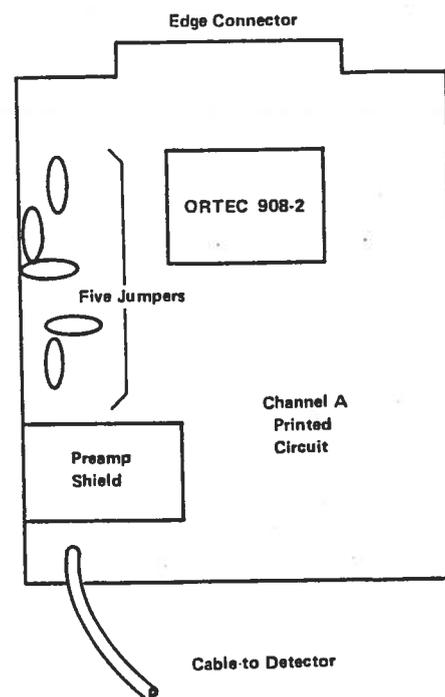

Fig. 3.1. Position of Polarity Switches for Bias and Amplifier.
3. Note the locations of all five jumpers on the component side of the SOLOIST Alpha Spectrometer PWB (Fig. 3.1). The "+" and "-" orientation for each of the jumpers is etched on the PWB.